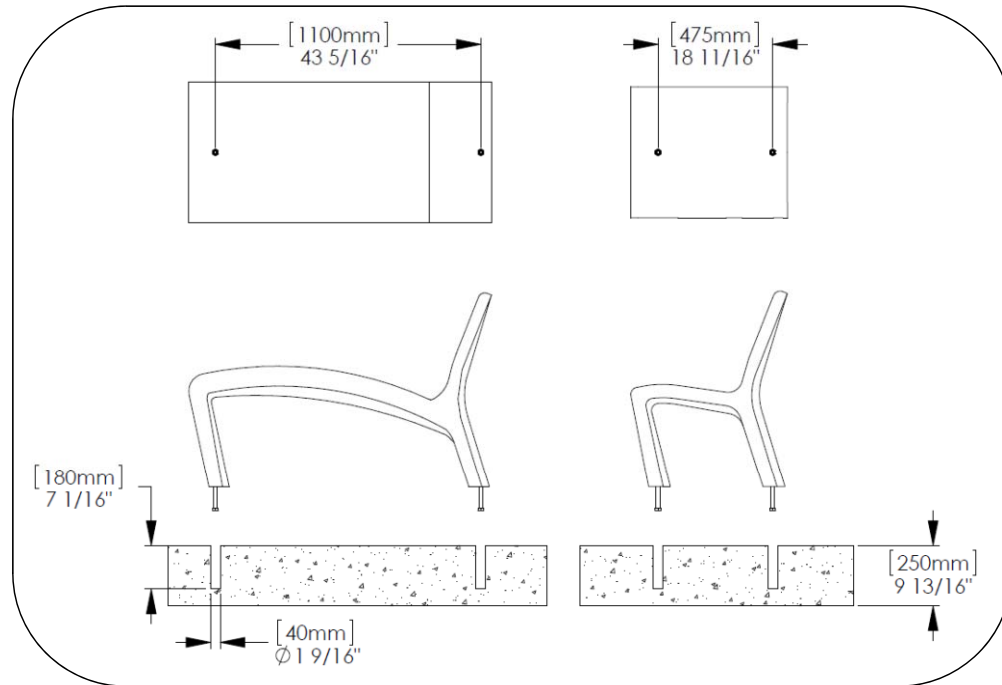

Fig. 2 – Side elevation of footing detail
2. Drill holes according to Fig. 2.